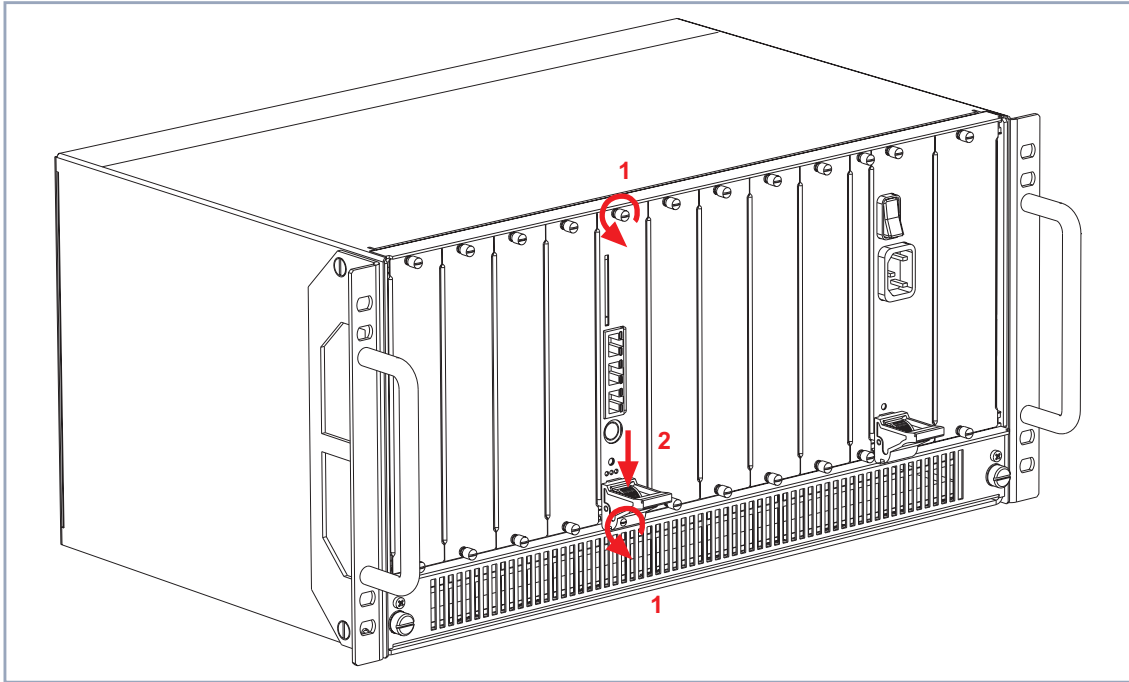

Figure 4-6: Removing an expansion card, step 1
- Loosen the screws of the front panel, see figure 4-6, page 40, arrows no. 1.
- Press the switch on the injector/ejector handle down in order to release the connection linked to the cross section of the case front, see figure 4-6, page 40, arrow no. 2.